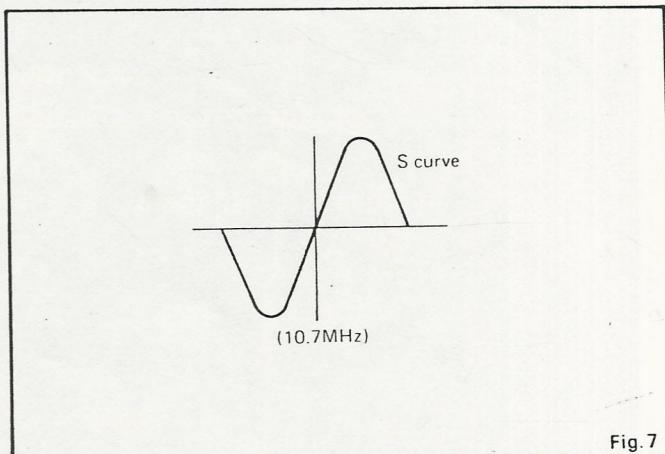

Fig. 7
3) Next perform S curve adjustment while observing TP3 waveform. Adjust by turning the secondary side core (black) of IFT103 to obtain a waveform having good symmetry and good linearity, as shown in the below Fig. 7.